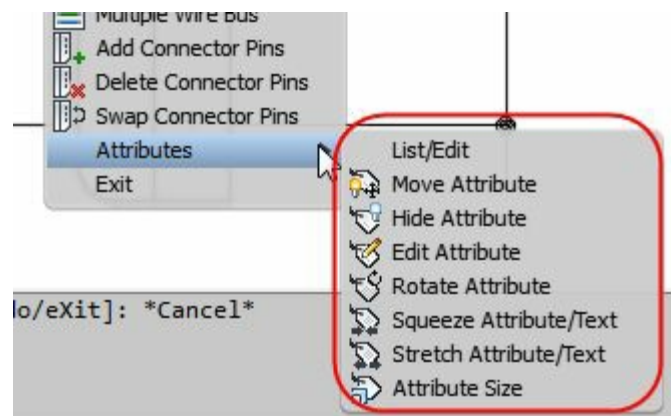

Figure-34. Cascading menu for attributes
- Move the cursor on the **Attributes** option in the menu. A cascading menu will be displayed; refer to Figure-34.